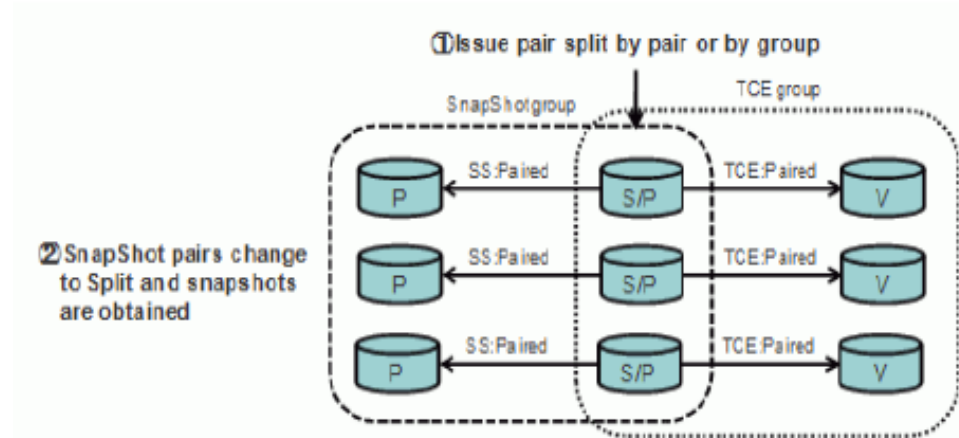

Figure 27-57: Local Snapshot creation function
Local snapshot creation function: Both asynchronous remote copy operations by TCE and snapshot operation by Snapshot can be performed together. Up to 1,024 snapshots of the P-VOL of a TCE pair can be created in the local array. When the host issues a command for creation of a snapshot of the P-VOL (1), the local array retains the P-VOL data at the time as a snapshot (2). See Figure 27-57 on page 27-85.